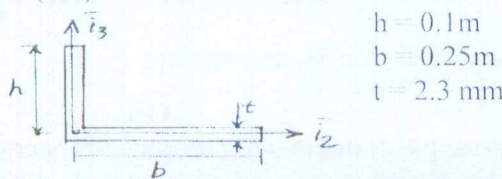

Fig Q4(b)
b. Find the principle centroidal bending stiffness of the beam shown in Fig Q4(b). The axial stiffness of section is  $S = Et (bth)$  (08 Marks)